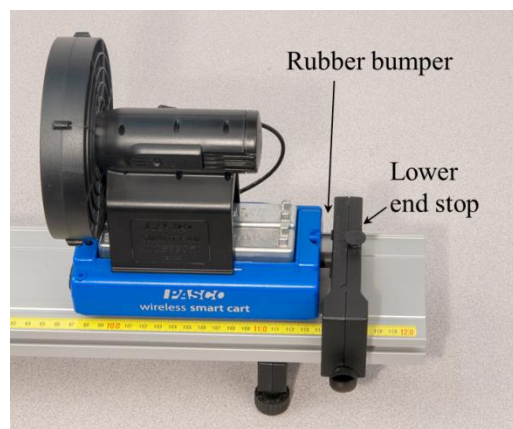

Figure 4: Cart's Rubber Bumper at Lower End Stop
Place and leave the cart at rest so that its rubber bumper touches the lower end stop, as shown in Figure 4. In the lower toolbar in Capstone, select the Smart Cart Force Sensor. Also in the lower toolbar, Zero the force sensor.
2. With the cart's rubber bumper at the lower end stop (see Figure 4), start recording. The fan should turn on automatically.